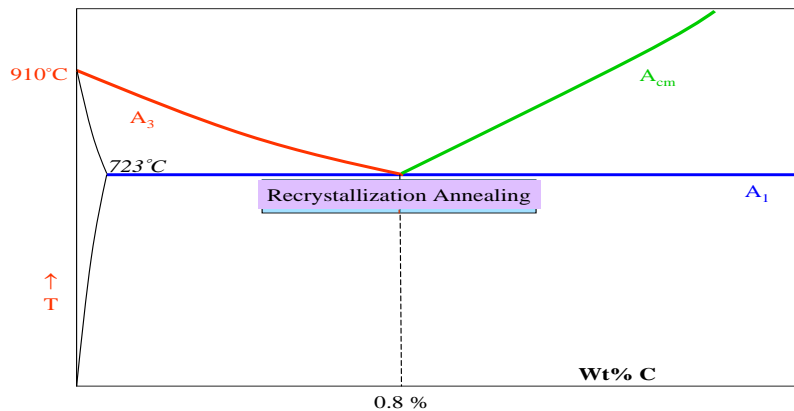

Fig.4. Shows Recrystallization annealing
- ✓ Hence, recrystallization annealing is used as an intermediate step in (cold) deformation processing. Show in the below figure 4.